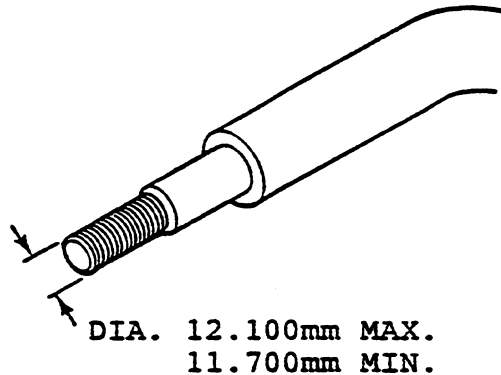

FIGURE 1
11. With a micrometer, measure the outside diameter of the threaded end studs on the stabilizer bar (Figure 1). Reading must be 12.1 mm (.476 inch) maximum to 11.7 mm (.460 inch) minimum.